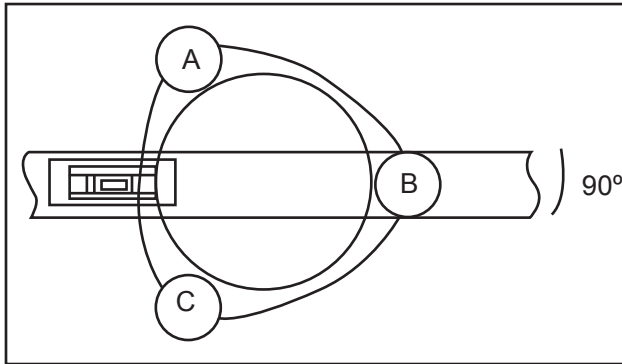
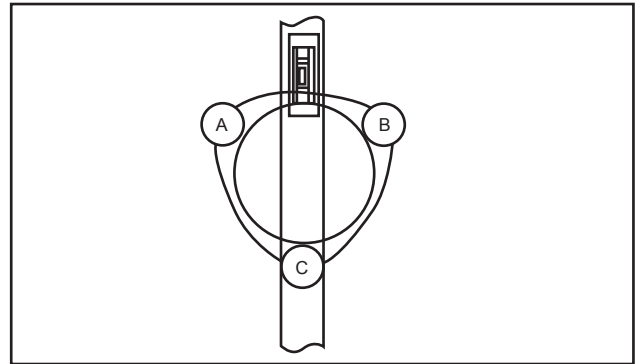

Fig.1
Fig.2
- 3- Adjusting level: According to the Fig.1, adjust the screw B or screw A, C till the bubble in the middle of two lines. Then turn the level to 90° (Fig.2), adjust the screw A or C till the bubble in the middle returns the level to the initial position, adjust the B again or, if necessary, repeat the above process till the bubble is in the exact middle position.